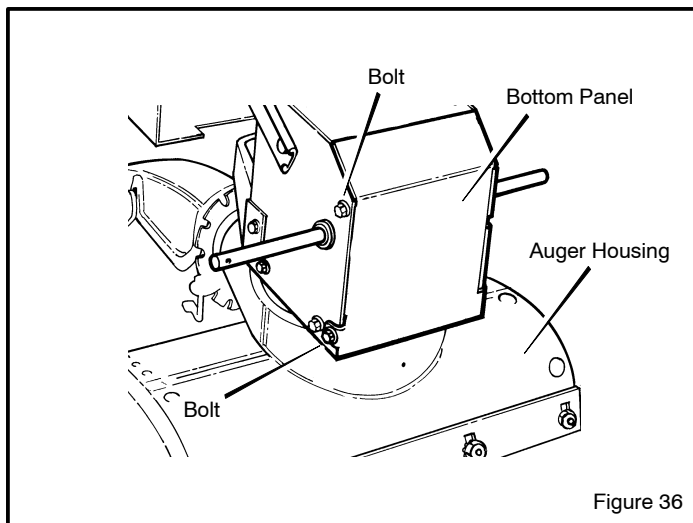

Figure 36
2. Loosen the **bolts** on each side of the **bottom panel** (see Figure 36).
10. Install the **bottom panel** (see Figure 36).